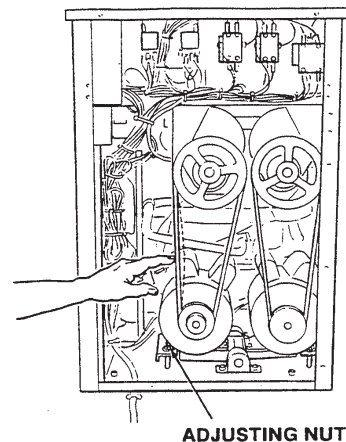

Figure 68. Belt Tension Adjustment
5. Install and adjust belt to the proper tension (Figure 68).